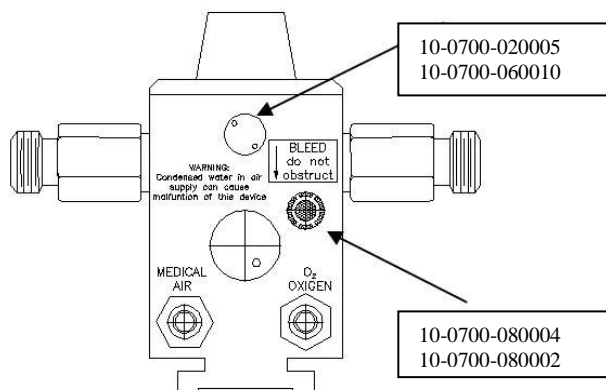

Figure 19
16.0 MUFFLER ASSEMBLY-BOTTOM, CENTER OF VALVE BLOCK (FIGURE 19)